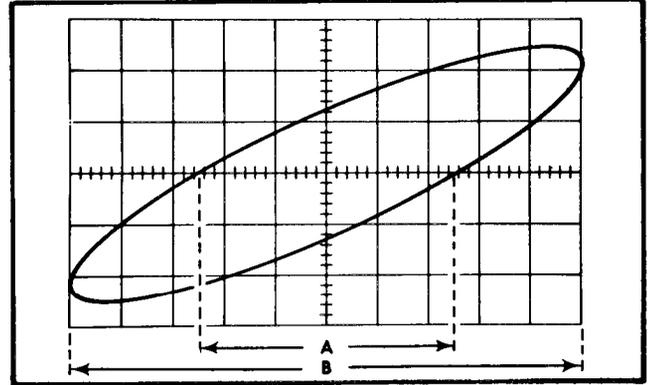

Fig. 2-26. Phase-difference measurement from an X-Y display.
3. Position the display to the center of the screen and adjust the VOLTS/DIV switches to produce a display less than 6 divisions vertically (Y) and less than 10 divisions horizontally (X). The CH 1 VOLTS/DIV switch controls the horizontal deflection (X) and the CH 2 VOLTS/DIV switch controls the vertical deflection (Y).
4. Center the display in relation to the vertical graticule line. Measure the distances A and B as shown in Fig. 2-26. Distance A is the horizontal measurement between the two points where the trace crosses the center horizontal line. Distance B is the maximum horizontal width of the display.
**Example.** Assume an inherent phase difference of 2° with a display as shown in Fig. 2-26 where A is 5 divisions and B is 10 divisions.